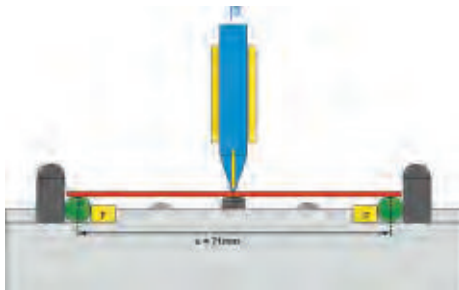
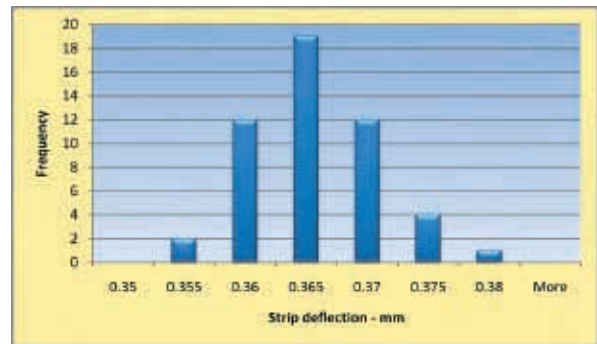

Fig.2. Modification of Almen gage for bending resistance measurements.
Fig.4 Bar chart showing frequency of deflections for 50 Almen N strips.
A simple modification to a digital Almen gage allows it to be used to evaluate **E*I**. One such modification is illustrated in fig.2 where 5.5mm diameter steel rods are used to support a strip carrying a load, **P**. The rods prevent contact of the loaded strip with the normal support balls – obviating excessive wear. Deflections of up to 0.700mm can be monitored - before bent strip touches support balls. Rod separation is maximized to 71mm, using spacers at **F**, in order to give greatest deflection sensitivity. The appropriate ‘bending of beams’ formula is that:
Substituting assumed values for **s**, **E** and **I** into equation (6) indicates that a load, **P**, in the range of 1–10N (about 0.1 – 1kg) should be sufficient to give a reasonable amount of N-strip deflection. The load, **P**, in fig.2 can be applied by various means. This modification employed vertical steel bars, of different masses, with chisel ends guided to the central loading line. A particular make of Almen gage needs to be ‘propped up’ to ensure that the strip is fairly horizontal in both directions.
As an example, a consistency test was carried out on a box of 50 Almen N strips. The same 758g load (7.44N) was applied centrally to each strip. Deflections were recorded using a TSP-3 Almen gage modified as illustrated in fig.2. The collected data is presented in bar chart format as fig.4.